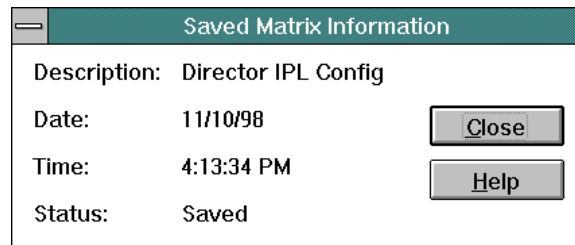

Figure 68. *Saved Matrix information Dialog Box*
- **Matrix Info** - Highlight a desired matrix name and click the *Matrix Info* button to open the *Saved Matrix Information* dialog box (Figure 68). The dialog box displays information about the selected configuration matrix, and can be retained for viewing information on other matrix files by clicking the desired name in the list box at the *Save Configuration Matrix As* dialog box.